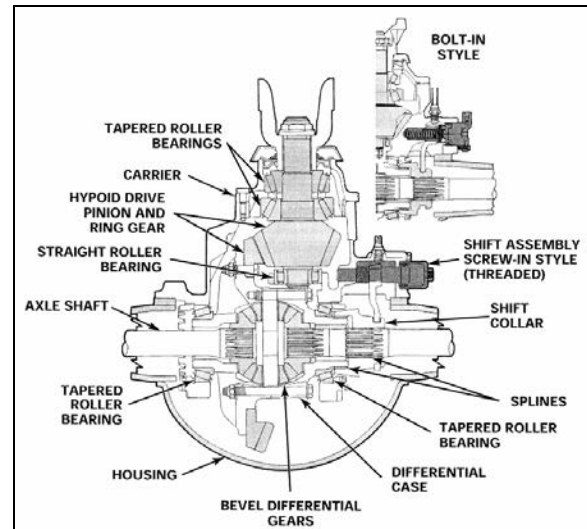

FIGURE 3: DRIVER-CONTROLLED DIFFERENTIAL LOCK
- FIGURE 3: DRIVER-CONTROLLED DIFFERENTIAL LOCK 2